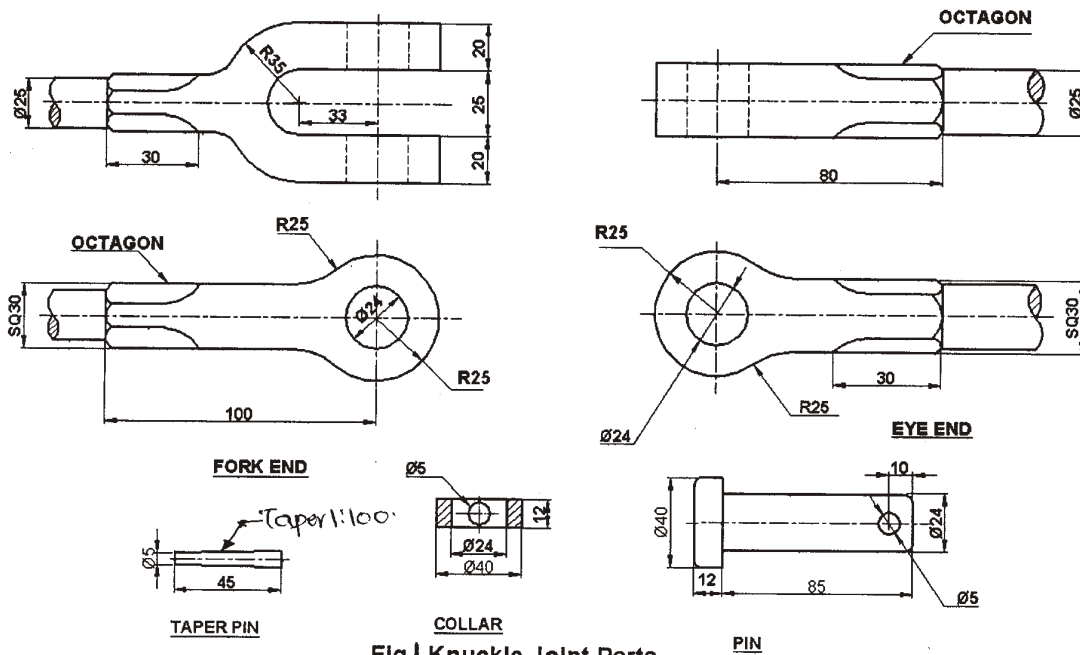

Fig.1 Knuckle Joint Parts
- Instructions :** (1) Answer *any one* question.
(2) Each question carries **forty** marks.
(3) All dimensions are in mm.
(4) Assume suitable dimensions if not given in part drawings.
5. Figure 1 shows details of knuckle joint. Assemble all the parts and draw the following views of the assembly at full size :
- (d) Prepare material list (3)